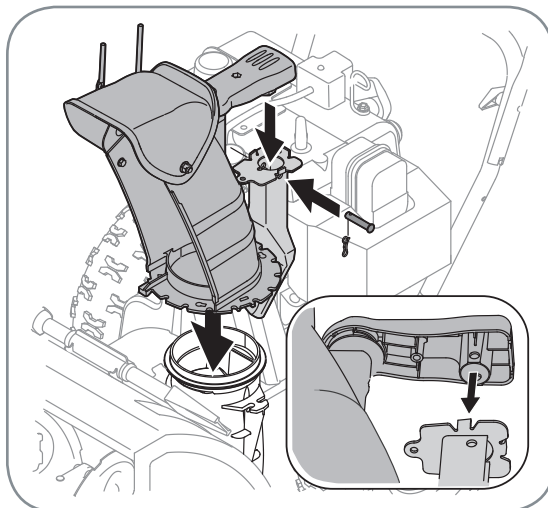

Figure 3
- a. Insert the round end of the chute control assembly on the short tube of the chute assembly as shown in Figure 3.